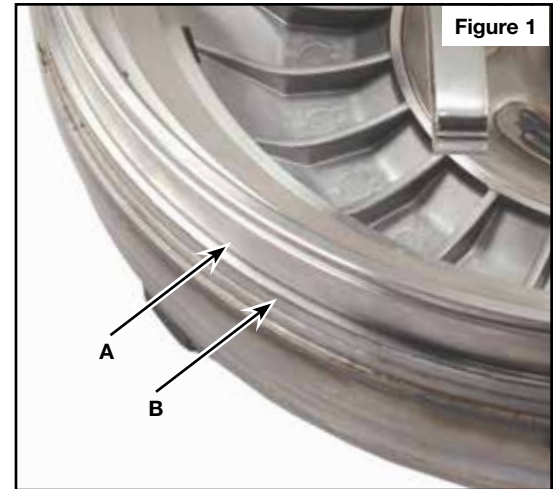

Figure 1
- c. Holding the three pieces together, place assembly into OE front cover as shown (Figure 1). The Sonnax backing plate shoulder (A) should rest on OE front cover lip (B) with no gap in-between and Sonnax steel clutch plate should rest onto OE aluminum piston.